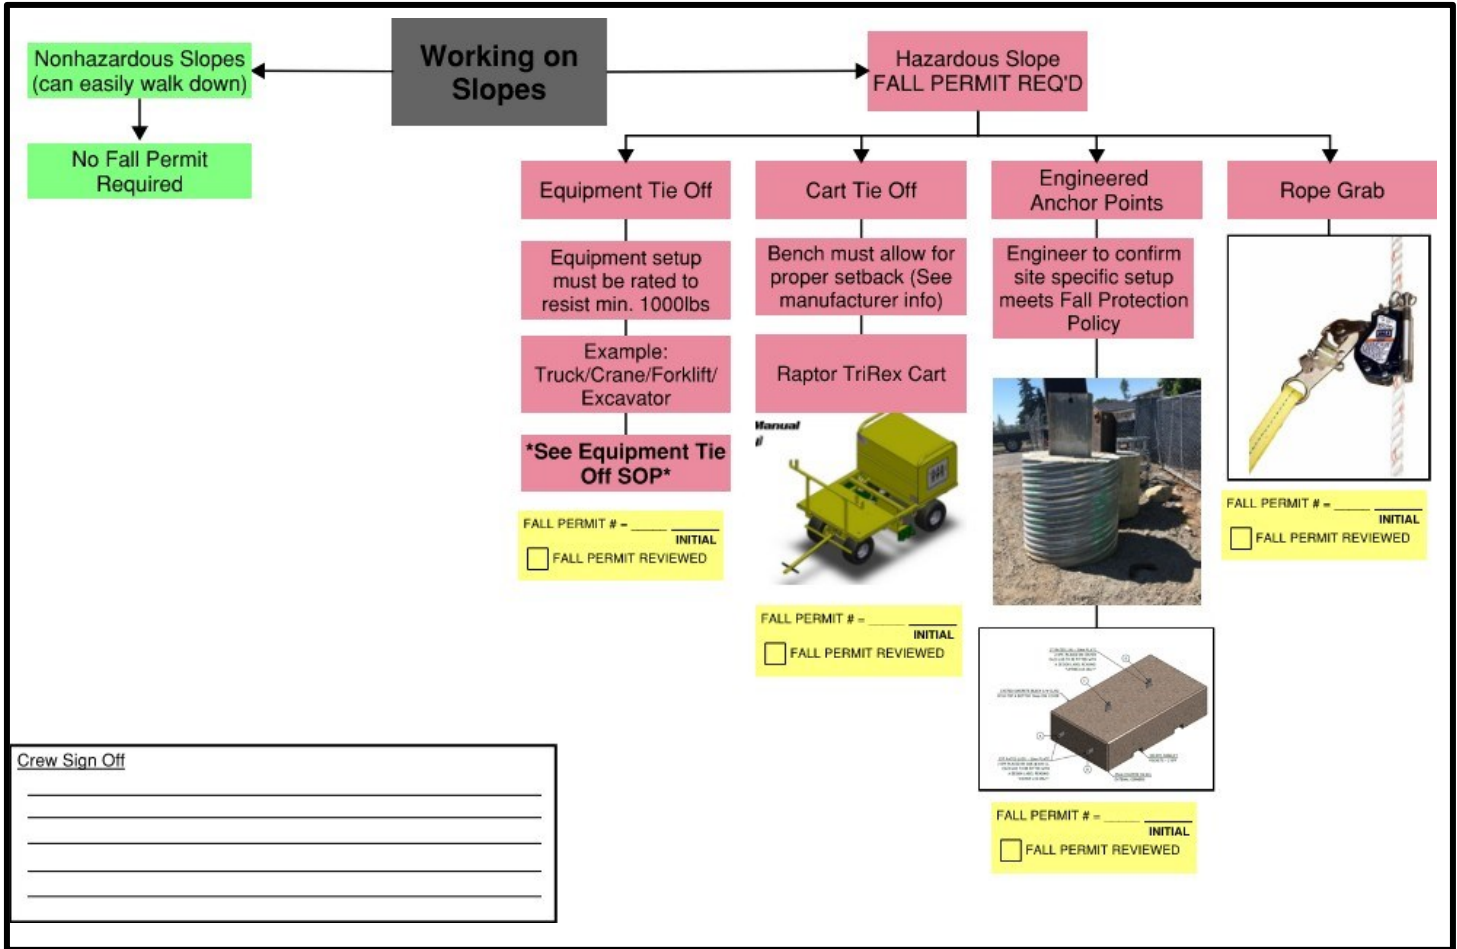

Figure 6.1
- 4.1.3 Slope Flowchart (Figure 6.1) can aid in the planning process and addressing hazards in the field.
- 4.2.2 Refer to Slope Flow Chart (Figure 6.1) for help on planning and selecting Fall Protection.